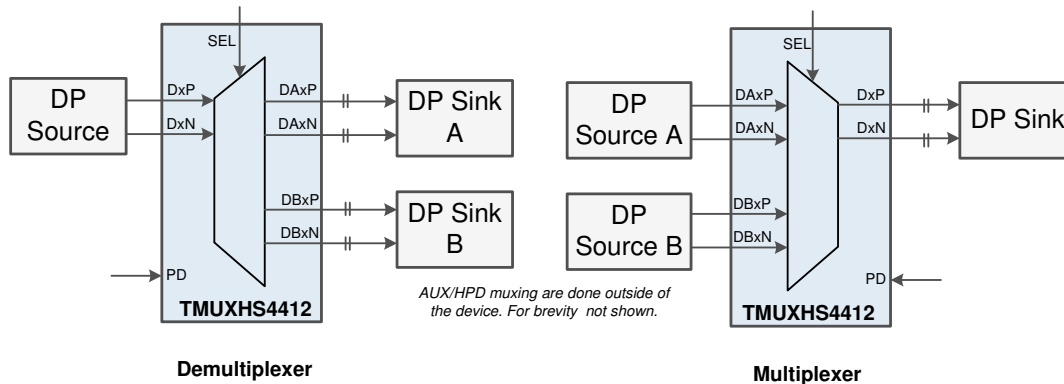

Figure 8-7. DisplayPort Main Link Demuxing/muxing
Figure 8-7 shows an application block diagram to implement DisplayPort (DP) main link switch either in mux or demux configuration. Note DP link also has sideband signals such as Auxiliary (AUX) and Hot Plug Detect (HPD) which must be switched outside of this device.